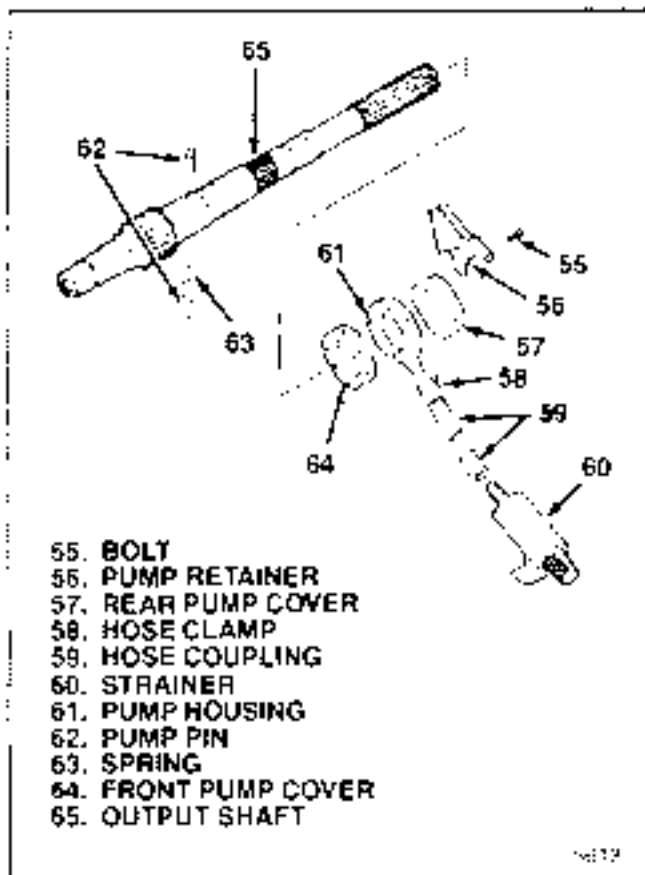

Figure 3-10. Pump Parts
**3-13. REMOVAL AND DISASSEMBLY OF SHAFT AND OIL PUMP ASSEMBLY.** From remaining transfer case assembly (54 through 110) remove the following (see figure 3-10):